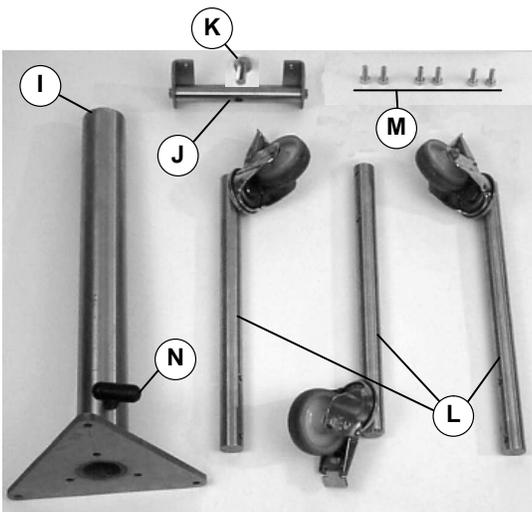

Figure 3
- Typical components (Figure 3) - caster option shown, foot pads similar